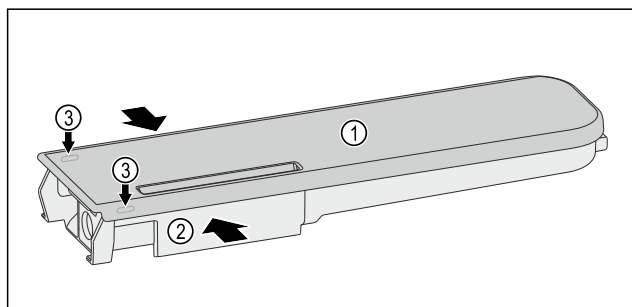

Fig. 114
- ▶ Push the water tanks Fig. 114 (2) together, leverage the cover Fig. 114 (1) carefully over the latching tabs Fig. 114 (3) and lift it up.
- ▶ Move the cover Fig. 114 (1) slightly forwards and back, and remove to the top.